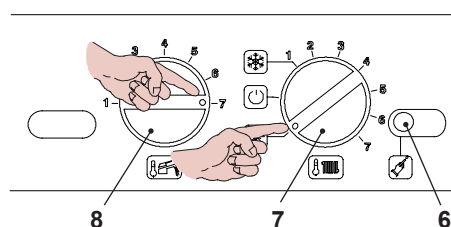

Figure 17.9
- Position the control panel knobs as shown in Figure 17.9.
- To enter Chimney cleaning mode, enter programming by pressing the reset button 6 in Figure 17.9 for 15 seconds until pa-
- Press the reset button 6 Figure 17.9 to scroll the various parameters until reaching the valid parameter **P09** for the Chimney cleaning mode setting: the following will appear on the LCD display (the sequence **P09** alternates with **00**).